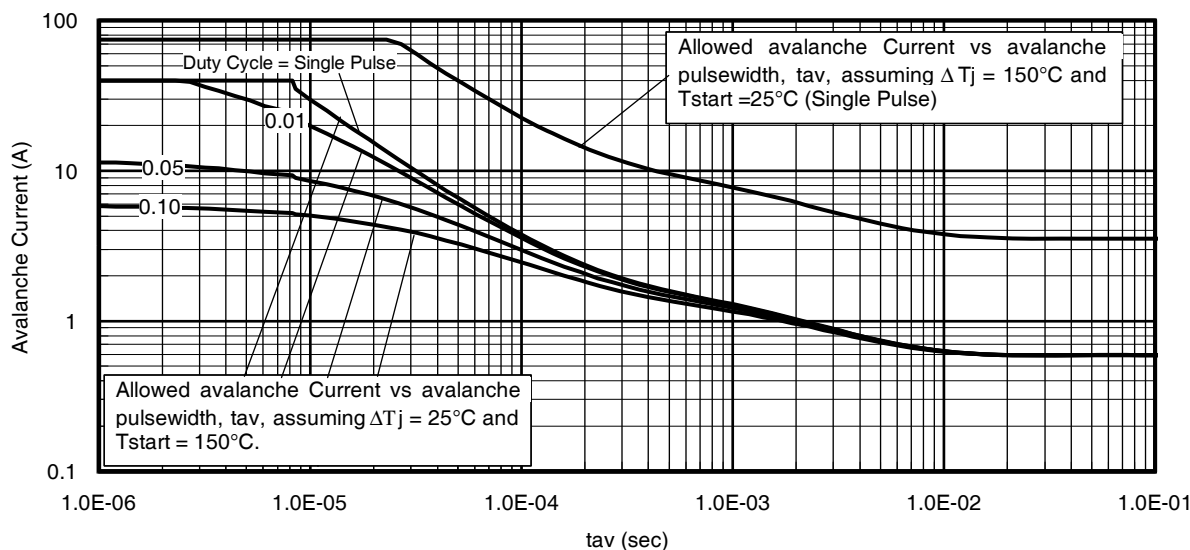

Fig 14. Typical Avalanche Current vs. Pulsewidth
Notes on Repetitive Avalanche Curves, Figures 14, 15: (For further info, see AN-1005 at www.irf.com)
- ΔT = Allowable rise in junction temperature, not to exceed T_{jmax} (assumed as 25°C in Figure 14, 15).